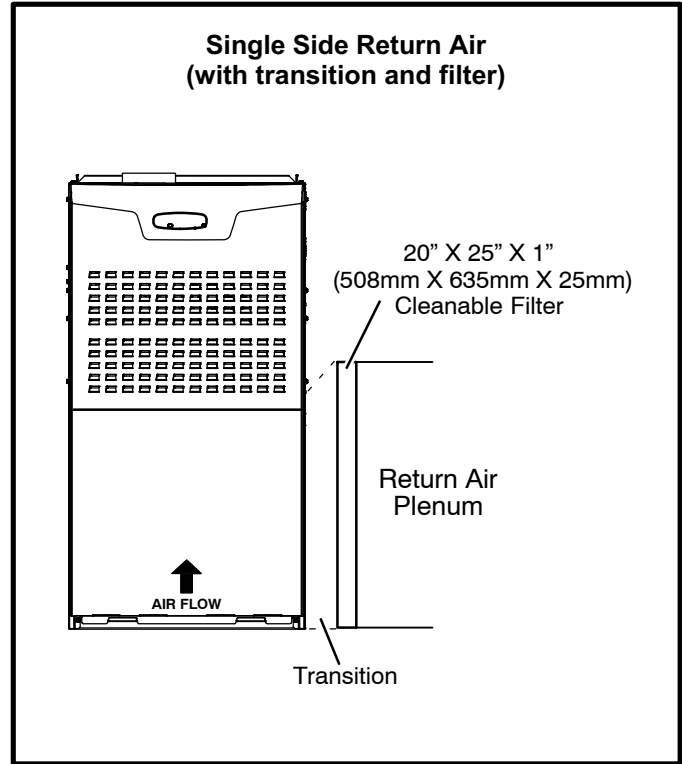

FIGURE 9
- 1 - Single side return air with transition to accommodate 20 x 25 x 1 in. (508 x 635 x 25 mm) cleanable air filter. (Required to maintain proper air velocity.) See figure 9.